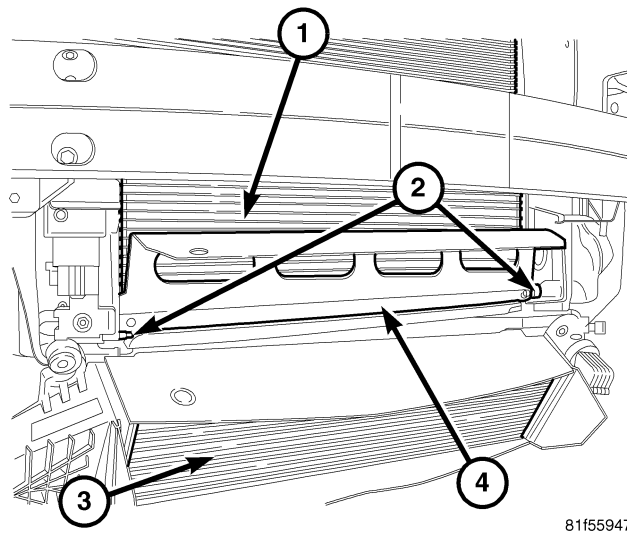

Fig. 6 DEFLECTOR INSTALLATION
17. Install deflector p/n 68044839AA on the clips on the condenser (Fig. 6).